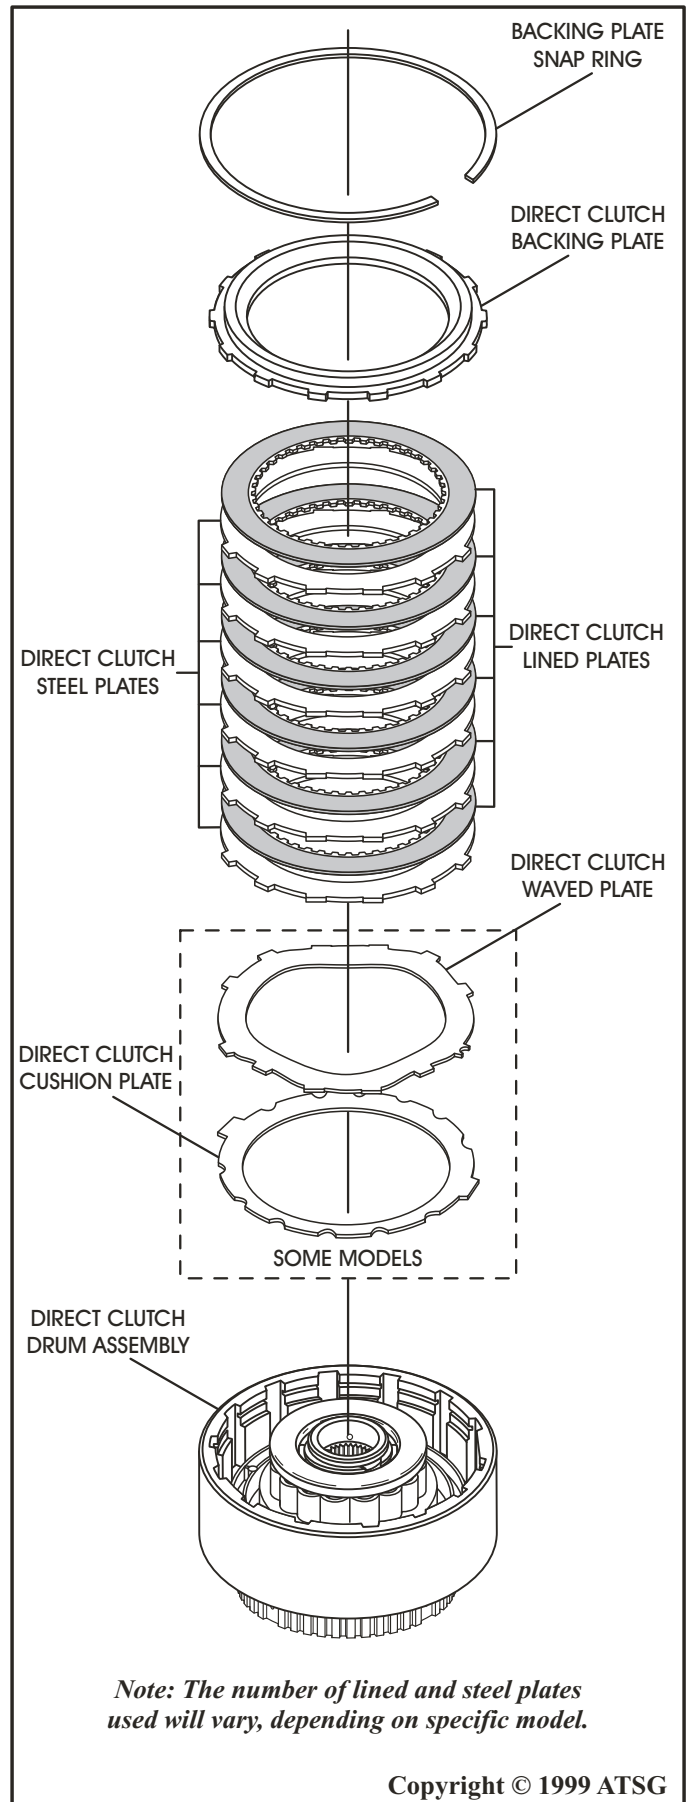

Figure 80
16. Install the waved plate or the cushion plate, as shown in Figure 80.
17. Install the direct clutches beginning with a steel plate and alternating with a friction plate, as shown in Figure 80.
18. Install the direct clutch backing plate with flat side down, as shown in Figure 80.
19. Install the direct clutch backing plate snap ring and ensure that it is seated in groove, as shown in Figure 80.